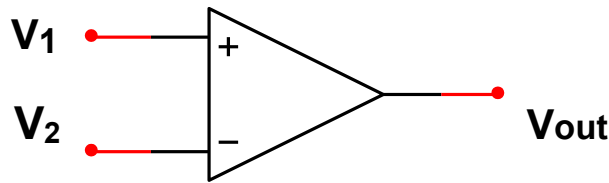

Figure 6.1 – Comparator
1. **Build the Comparator** according to your prelab design and **Figure 6.1**.